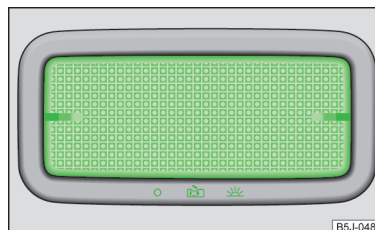

Fig. 98
- › Move the cover glass to the  position » Fig. 98.
- › Move the cover glass to the **O** » Fig. 98 position.
- › Move the cover glass to the middle position  » Fig. 98.